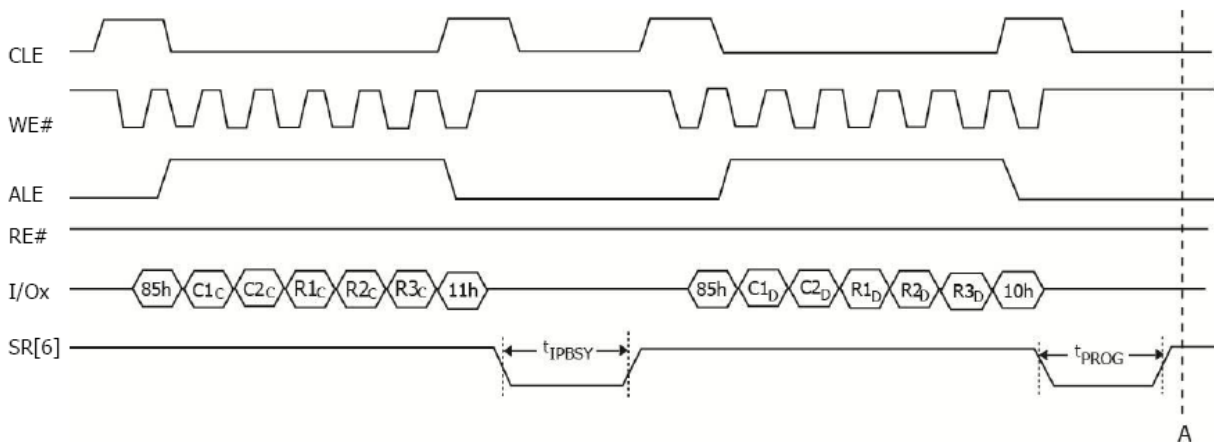

Figure 30. Multi-plane Copy Back Program (ONFI 1.0 protocol)
Same restrictions on address of blocks on plane 0(A) and 1(B) and allowed commands as Figure 30 apply